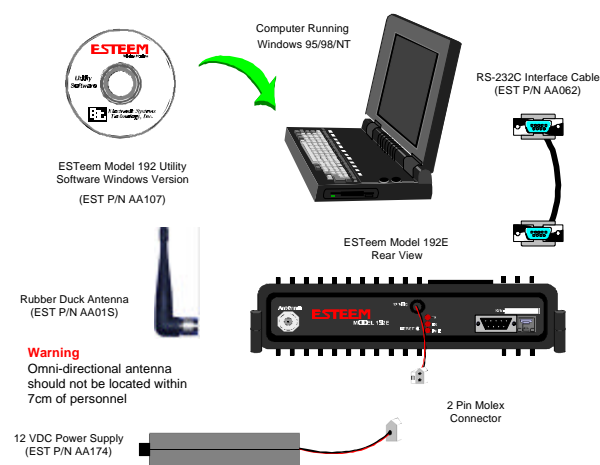

Figure 1: Hardware Layout Diagram
Locate the items contained in Figure 1 for initial configuration of the ESTeem Model 192E. Take a few minutes to inventory your equipment before you proceed. Report any missing or damaged items to Customer Support (509-735-9092) as soon as possible.
Caution: Your ESTeem hardware may have antennas other than the AA01S listed in Figure 1, but you must have an antenna connected to the antenna port before applying power to the unit.
1. Place the ESTeem Utility Software CD in your CD-ROM drive (Figure 1).